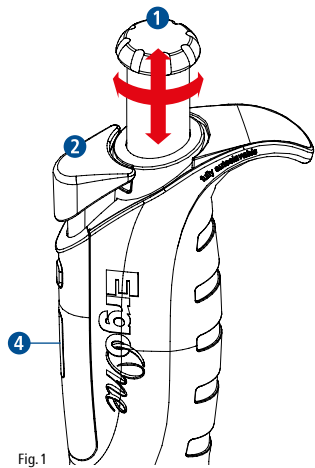

Fig. 1
Open the volume adjustment catch by pulling up the volume control button ❶ (Fig. 1), until you hear a click. Turn the volume control button ❶ clockwise to reduce the aspirated volume, or counter clockwise to increase it. The set volume is shown in the four-step volume display ❷ from top to bottom, with a white line indicating the decimal point. When increasing the volume setting, pass the required value by 1/3 of a turn and then slowly decrease to reach the volume, making sure not to go beyond the required volume. After you have finished setting the volume, push the volume control button ❶ back to its lock position until you hear a click. The pipette is now ready to use.